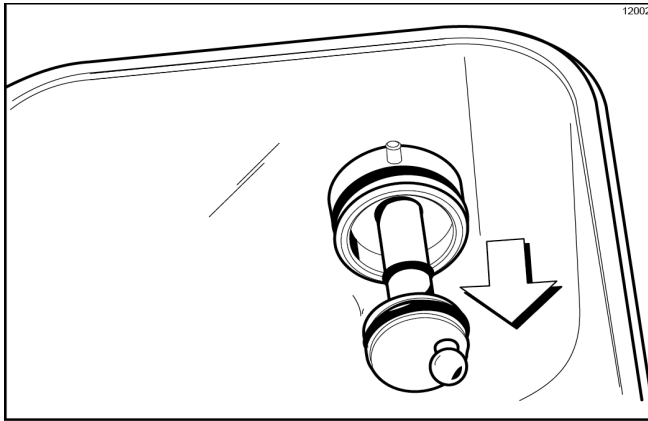

Figure-103
- Remove the pump driveshaft from the drive hub in the rear wall of the mix hopper. (See Figure-103.)